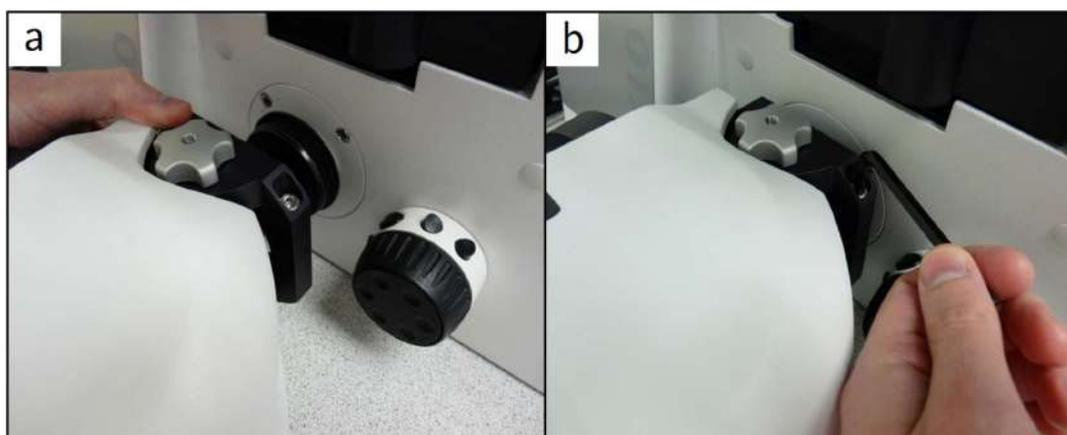

Figure 5.4.2(a) Engaging Clarity onto the microscope adapter, (b) locking the microscope clamp.
3. Slightly loosen the clamping mechanism of the Clarity using an M6 Allen key, figure 5.4.2 (b).
4. Slide the Clarity onto the microscope adapter, figure 5.4.2 (a). If the Clarity is not approximately horizontally aligned with the microscope adapter, it may not mount correctly and you must adjust the height adjustment on the leg assembly as shown in section 5.4.6.
5. Tighten the clamping mechanism using the provided M6 Allen key, figure 5.4.2 (b).